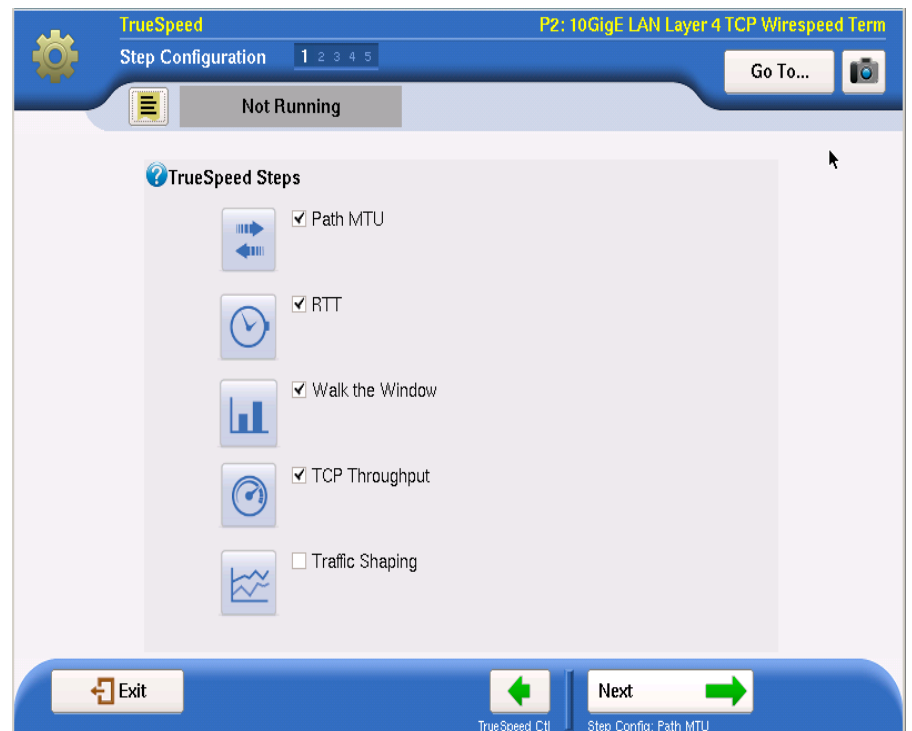

Figure 90 TrueSpeed Step Configuration
- 2 The Step Configuration window appears (see Figure 90).